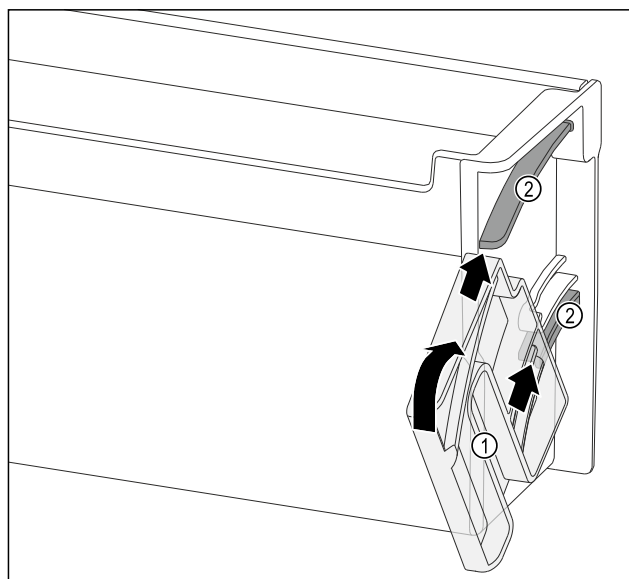

Fig. 145
- ▶ Position the swivel unit *Fig. 145 (1)* so that the recesses are exactly opposite the guide channels *Fig. 145 (2)* of the door racks.
- ▶ Turn the swivel unit *Fig. 145 (1)* in the specified direction.